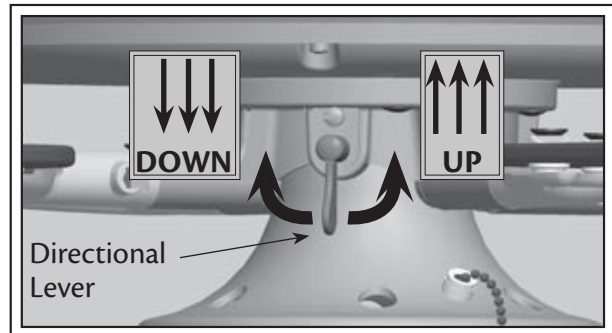

Fig. 19
1. Move the directional lever all the way to the left side for down draft (see Fig. 19).
2. Move the directional lever all the way to the right side for up draft (see Fig. 19).